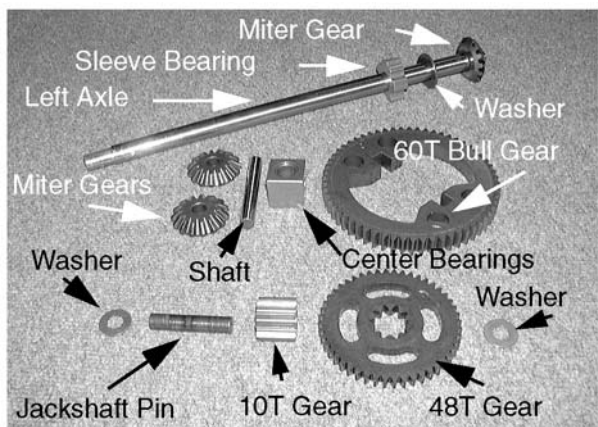

Figure 6-60.
19. Separate and inspect all the components for damage or wear. See Figure 6-60.